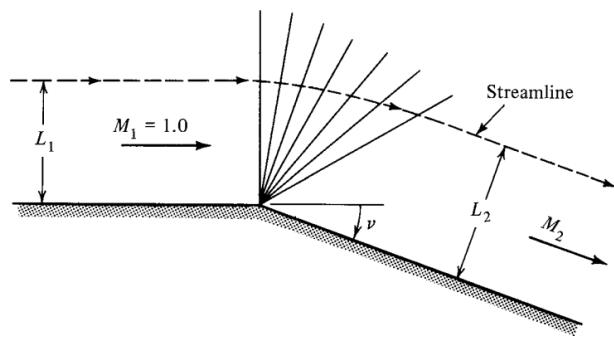

Figure P8.16
- 8.16** Flow, initially at a Mach number of unity, expands around a corner through angle ν and reaches Mach number M_2 (see Figure P8.16). Lengths L_1 and L_2 are measured perpendicular to the wall and measure the distance out to the same streamline as shown.